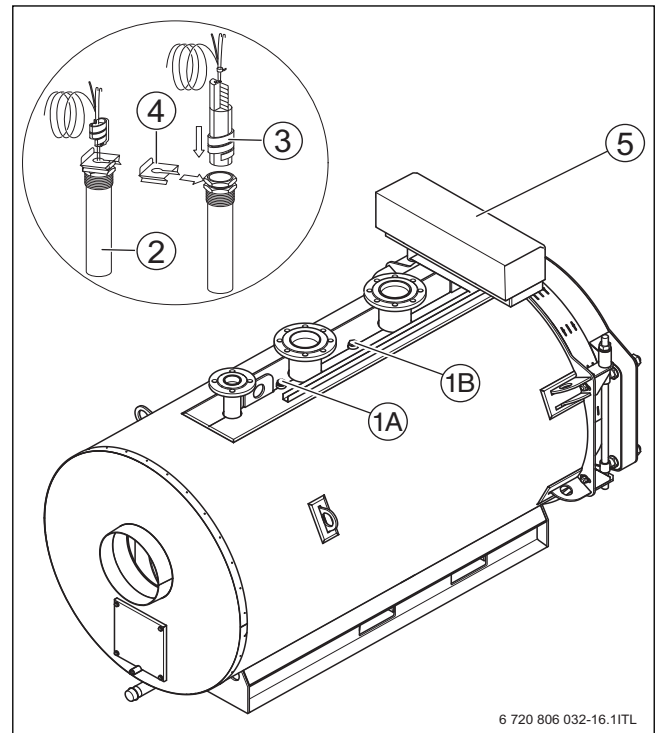
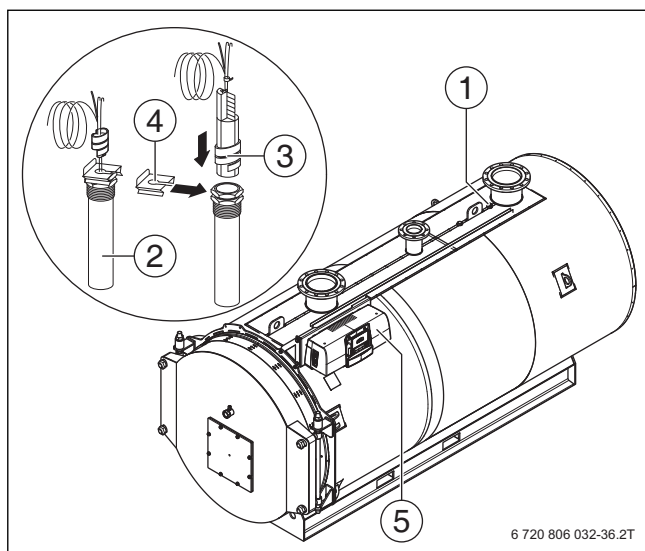

Fig. 26 Installing the temperature sensor set on the Uni 3000 F up to 820 kW
Fig. 27 Installing the temperature sensor set on the Uni 3000 F
The sensors of the high limit safety cut-out (STB) and of the temperature controller (TR) **must** be fitted at the installation location on the top of the boiler (→ Fig. 26 and Fig. 27).
- ▶ Insert sensor set (→ Fig. 26, page 22, [3]) into the measuring point [1] until it bottoms.